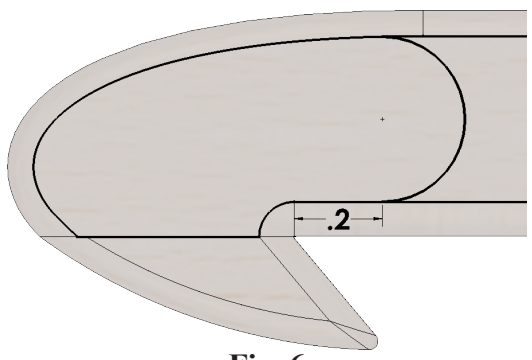

Fig. 6
Step 5. Click **Smart Dimension**  (S) on the Sketch toolbar.
Step 6. Add the **.2** dimension, **Fig. 6**.